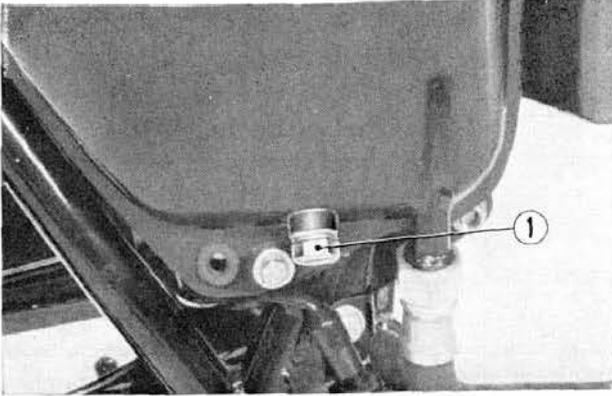

Fig. 19-1 ① Oil tank drain plug
(1) Take the oil tank cap off and remove the drain plugs from the oil tank and lower crankcase. (Fig. 19-1, 2) The oil will drain steadily. Operate the kick starter several times to drain any oil which may have been left within the pockets of the engine. After the oil has been thoroughly drained, reinstall and tighten the drain plugs.
(2) Add approximately **3.0 qts. (2.9 lit.)** of good grade oil of MS, DG or DM, SAE 10 W-40 or 20 W-50 into the oil tank and start the engine. After making sure that the warning light is off, raise the engine rpm to 1000~1500 and run the engine for one or two minutes.